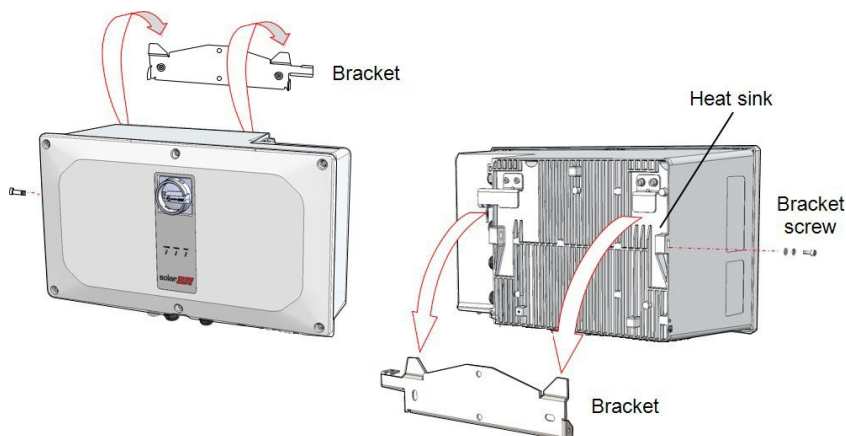

Figure 18: Hanging the Synergy Manager
- Align the two indentations in the enclosure with the two triangular mounting tabs of the bracket and lower the unit until it rests on the bracket evenly (see Figure 18).